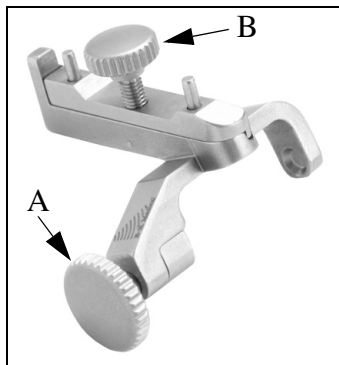

Fig. 3. Puncture attachment UA 1250
The puncture attachment (see Fig. 3) comprises an attachment bracket, an attachment lock screw (item A in Fig. 3), a needle guide, a needle-guide lock screw (item B in Fig. 3) and a variable diameter holder for fine needles (0.6mm or 24 gauge) and large bore needles (2.4mm or 13 gauge). The guide channel is angled at 18° to the transducer's image axis.
Note: When mounted the attachment lock screw (item A in Fig. 3) should be on the side of the transducer handle opposite to the transducer's control button.
2. Fix the attachment bracket in position by tightening the attachment lock screw (item A in Fig. 3). Tighten the screw up to its "locking point", after which it will not be possible to tighten the screw anymore.
4. Using the needle guide locking screw (item B in Fig. 3), adjust the needle guide according to the size of needle to be used.